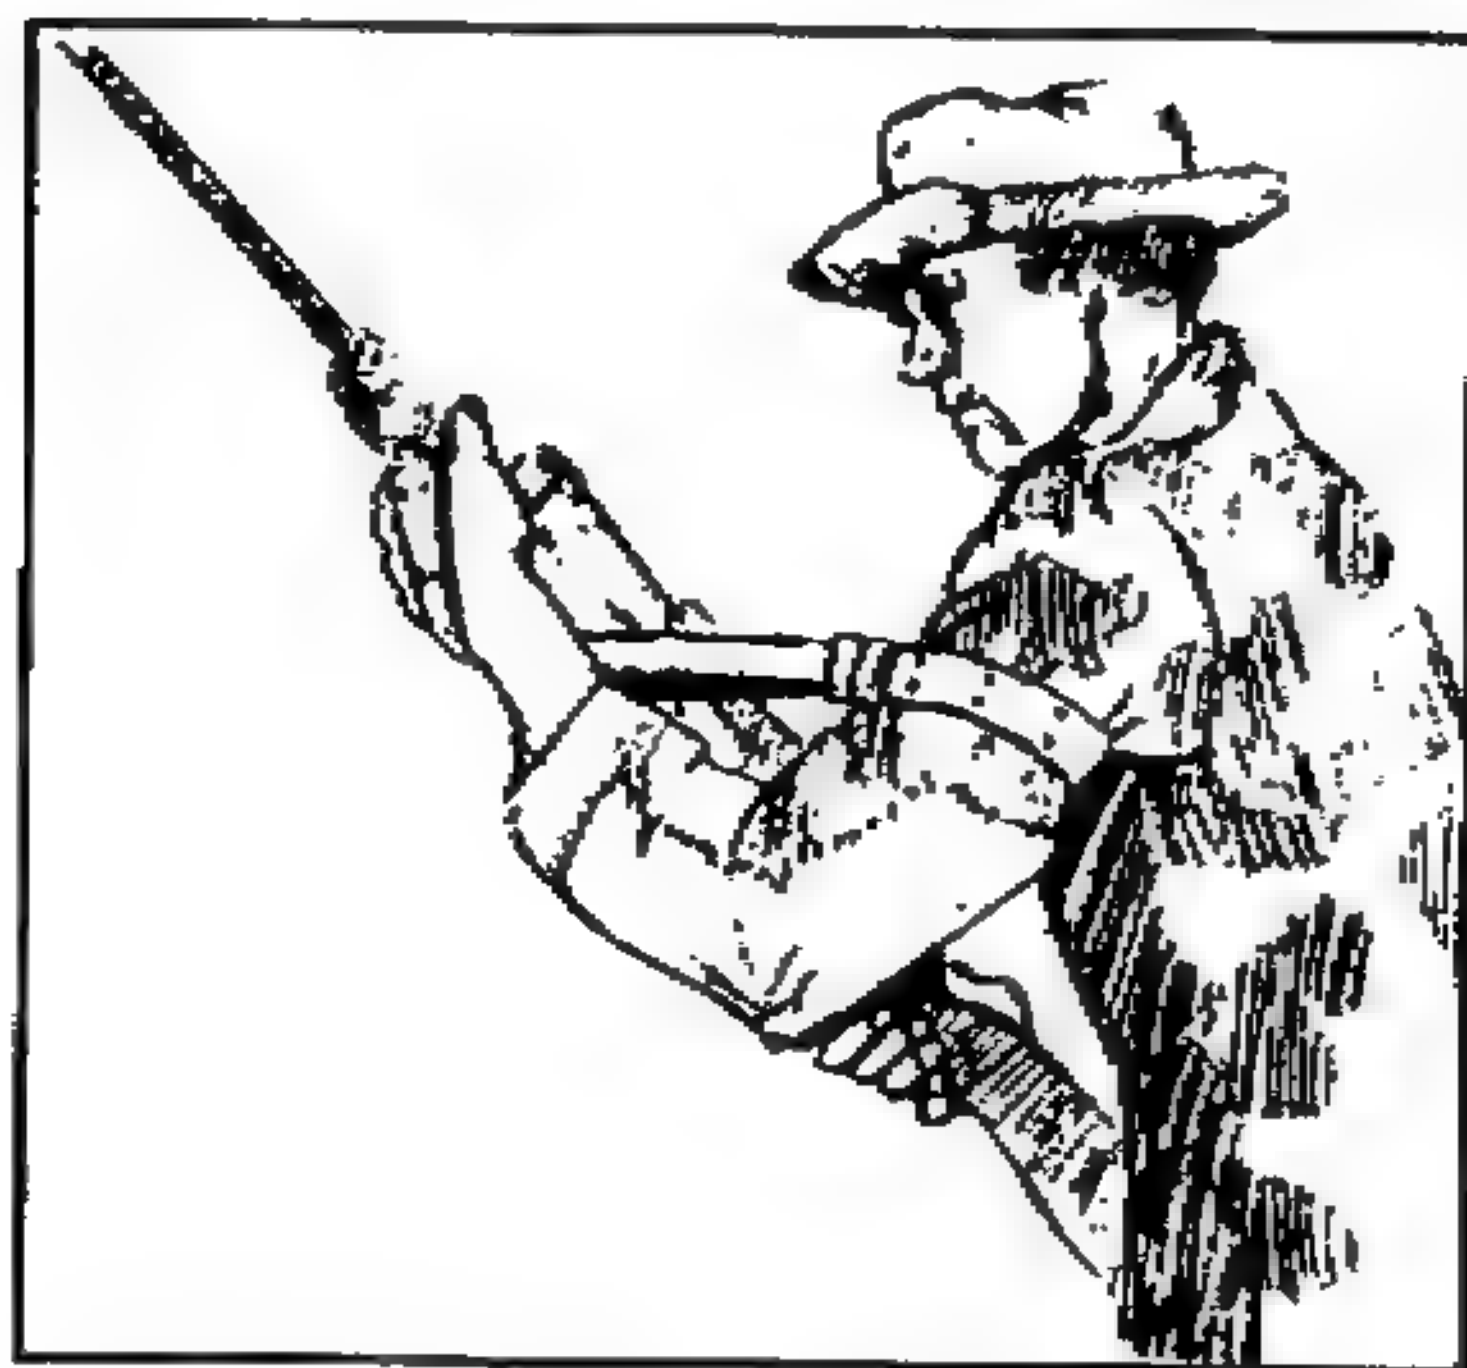

Figure 2-12. Proper placement of the sling.
(6) The sniper moves his nonfiring hand from the outside of the sling to the inside of the sling between the rifle and the sling. The sniper then grasps the forearm of the weapon just behind the sling swivel with his nonfiring hand. He forces it outward and away from his body with the nonfiring hand (Figure 2-12).
(7) The sniper pulls the butt of the